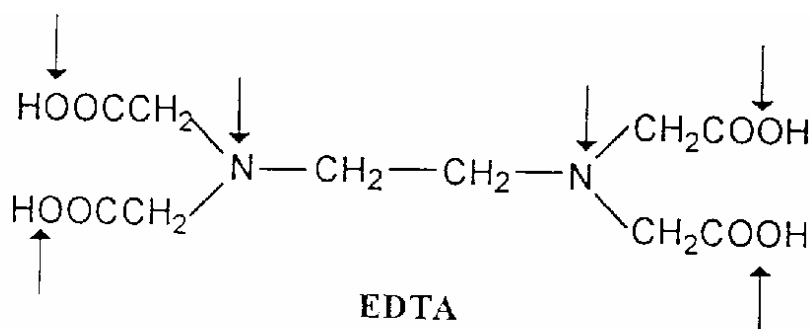

Fig 5.2 EDTA
- has six potential bonding sites, identified in Fig 5.2